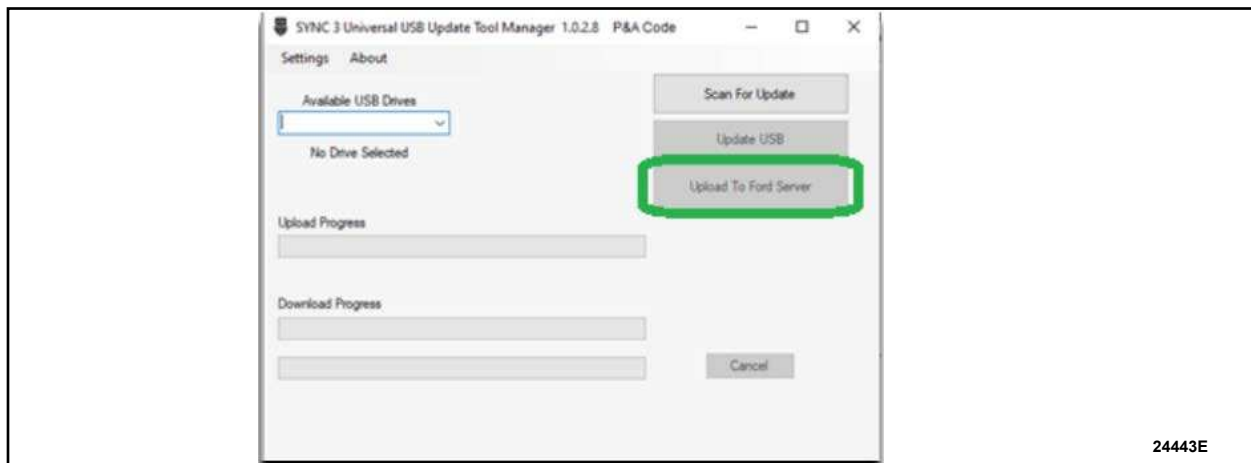

FIGURE 6
17. Plug USB back into PC. Select the USB from the list of available drives and click on **Upload to Ford Server**. See Figure 6.